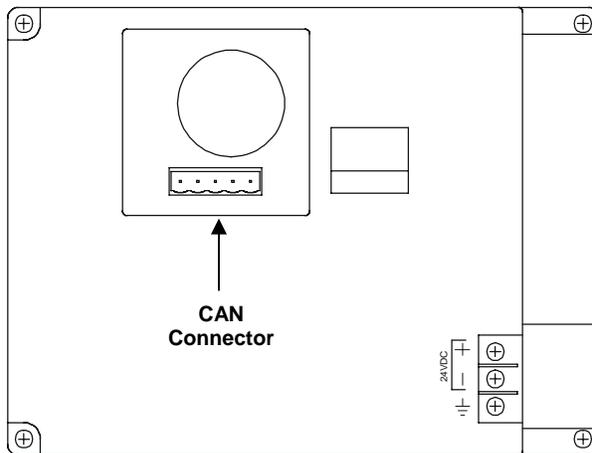

Figure 8.1- CAN Connector Location
2. From back of unit remove CAN (network) connector (Figure 8.1).